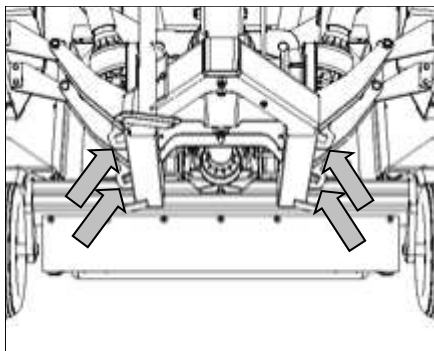

Fig. 61
12. Tie-down points are provided on the mower chassis, two on each side (Fig 61). Use these to connect approved chains or webbing. Ensure the machine is properly secured according to local transport regulations before moving the vehicle.